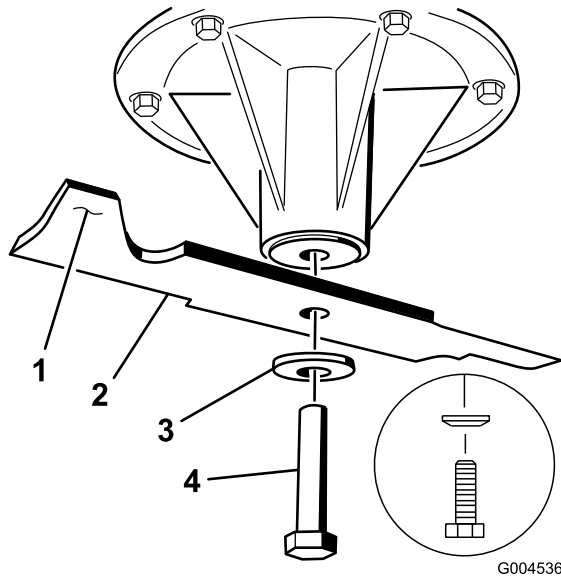

Figure 98
position, the blade is balanced and can be used. If the blade is not balanced, file some metal off the end of the sail area only (Figure 98). Repeat this procedure until the blade is balanced.
1. Install the blade onto the spindle shaft (Figure 98).
2. Install the spring disk and blade bolt. The spring disk cone must be installed toward the bolt head (Figure 98). Torque the blade bolt to 85-110 ft-lb (115-150 N-m).